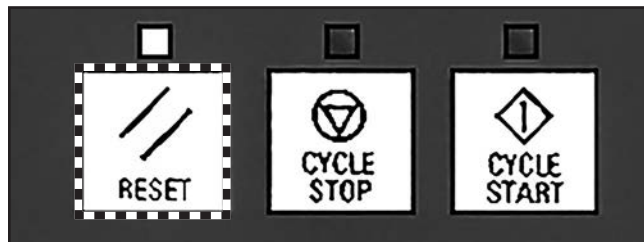

Figure 84. RESET key location.
- Press RESET key located in bottom right corner of MCP (see **Figure 84**) to extinguish PPU status area alarms.